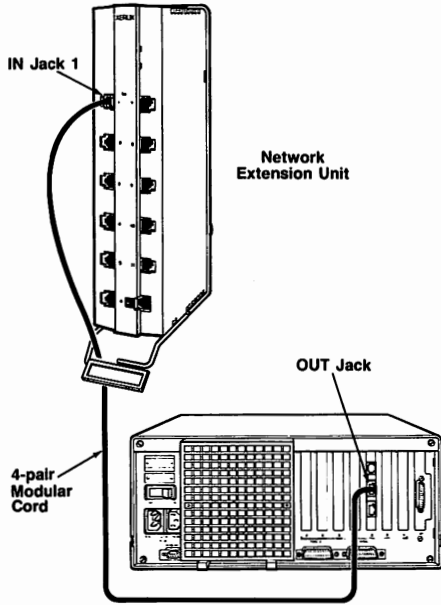

Figure 2-11. Connecting a workstation to an NEU
- Locate the OUT jack on your XC 22 board (Fig. 2-11).